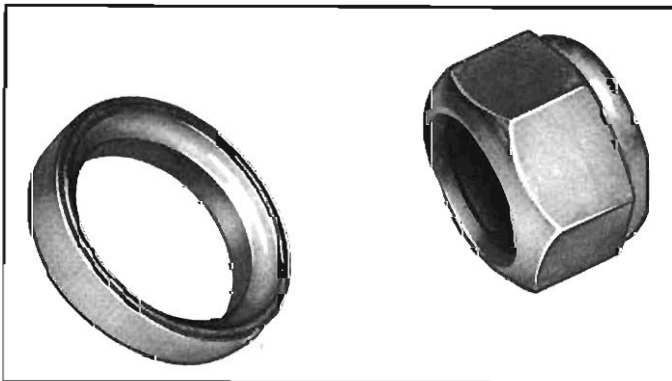

Fig. 56—Special Washer and Nut
16. Remove assembly from press and position the special impeller washer (fig. 56) with dished side upward and install (LEFT HAND THREADS) the self-locking nut on the turbine